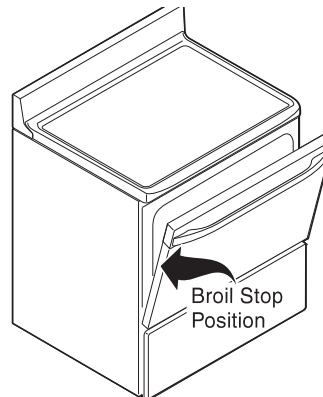
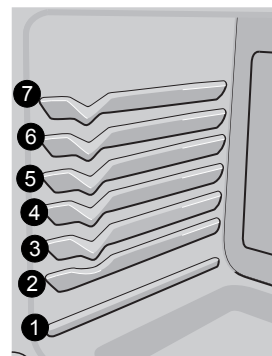

Fig. 48 Door stop for normal broiling
Fig. 49 Rack positions
2. Arrange the interior oven rack to rack position recommendations. See Table 1 and Figure 49. Be sure to place the pan with the meat directly under the broil element. **Leave the oven door open** in the broil position. (Figure 48)